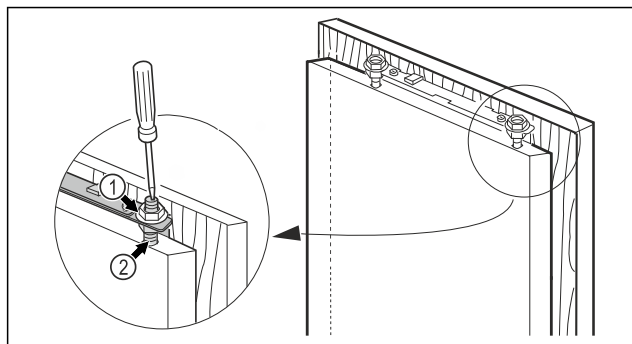

Fig. 23
- Tighten the lock nuts Fig. 23 (1) with a hexagon spanner 13, stabilising the adjusting bolt Fig. 23 (2) with a screwdriver.